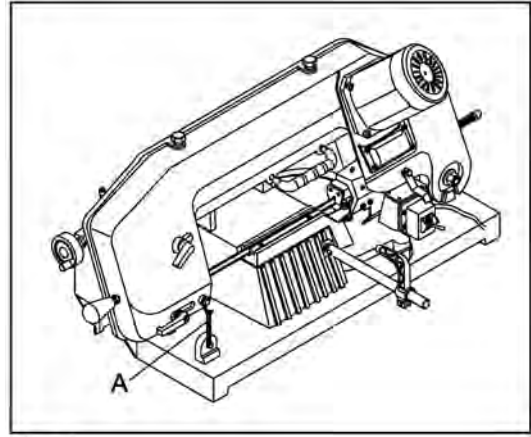

Fig. 1
Unhook the lock chain (A) in Fig.1 to release this saw. After service, must replace the chain, and hook it properly for your safety and carry. Failure to comply with the warning could result in personal injury and machine damage.